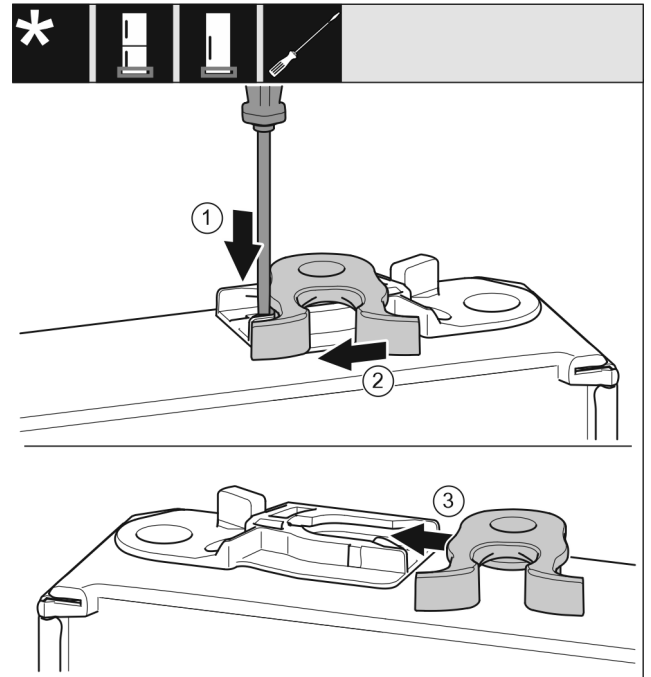

Fig. 20 *
- ▶ Push the lug downward with a slotted screwdriver. Fig. 20 (1)*
- ▶ Pull the door latch out of the guide. Fig. 20 (2)*
- ▶ Push the door latch into the guide on the other side. Fig. 20 (3)*